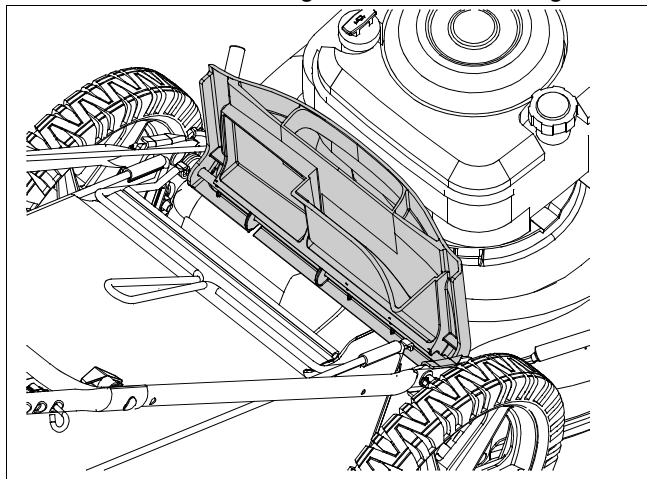

Figure 9
- Lift the rear discharge door and place the grass catcher on the pivot rod. Let go of discharge door so that it rests on the grass catcher. See Figure 9.